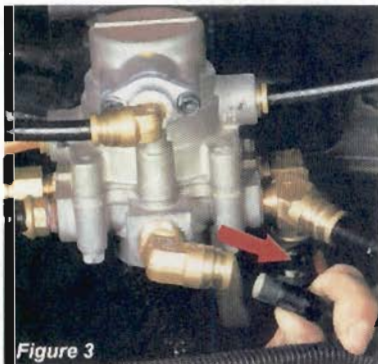

Figure 3
**STEP 2:** Identify and mark all air lines before disconnecting to aid in the re-installation of the air lines. Remove all air lines from the spring brake valve (*Figure 3*).